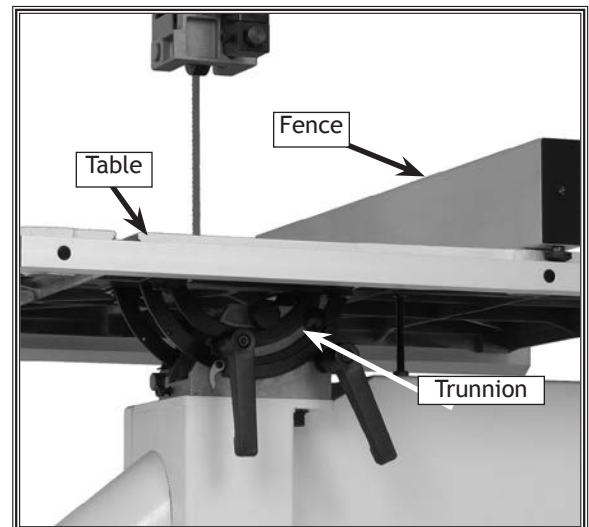

Figure 49. Table underside.
3. Remove the fence, table, and trunnion housing (see **Figure 49**), then open both wheel covers.